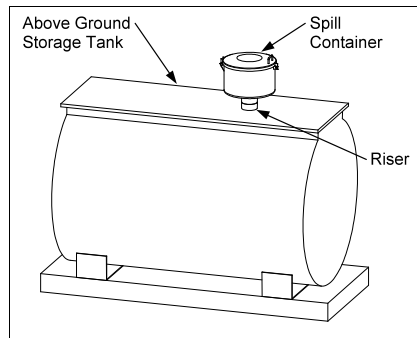

Figure 1
3. Place the spill container onto the riser pipe and thread on hand tight. (See Figure 1.)